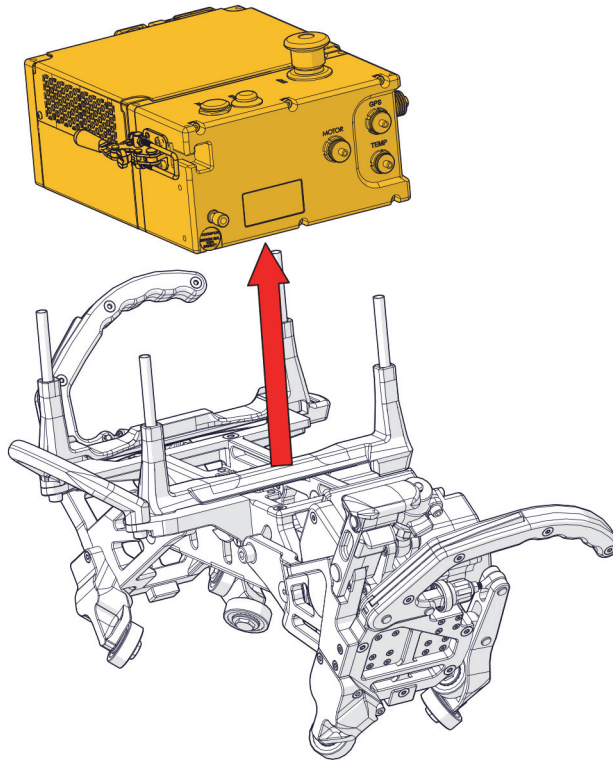

Figure 2-3 Remove the acquisition unit
3. Remove the acquisition unit (see Figure 2-3 on page 85).